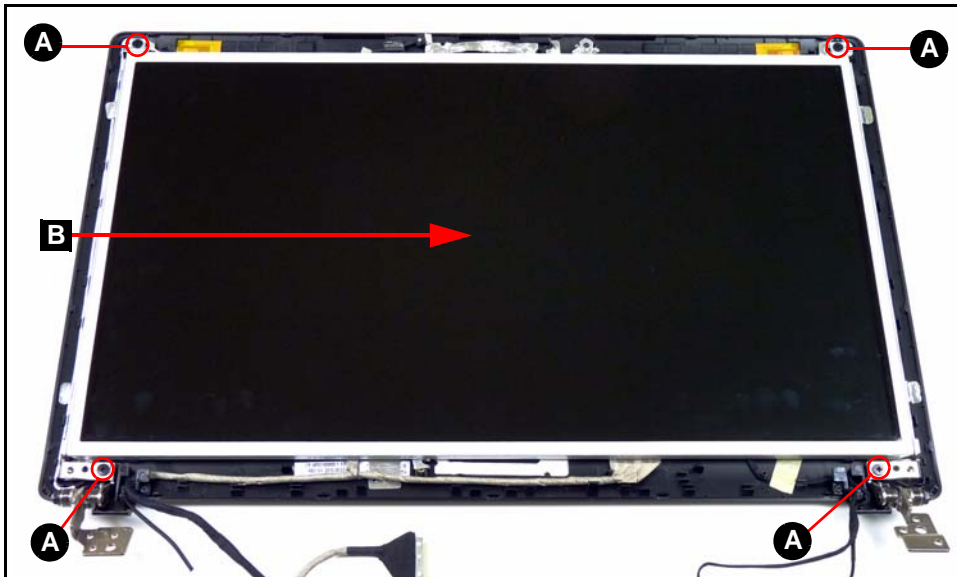

Figure 3-46. LCD Panel
1. Remove the four (4) securing screws (A) from the LCD panel (B). (Figure 3-46)
3. Lift the LCD panel (B) from LCD cover. (Figure 3-46)
1. Put LCD panel (B) on the LCD cover. (Figure 3-46)
3. Install and secure four (4) screws (A) to the LCD panel. (Figure 3-46)